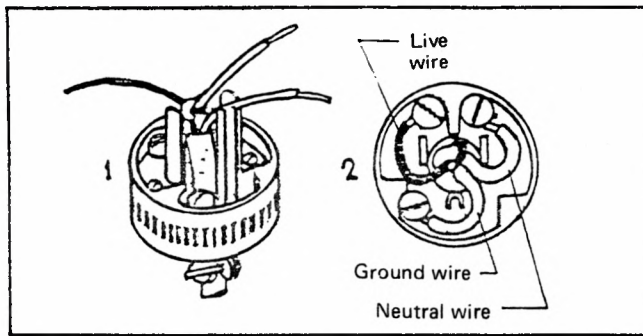

FIG. 5-9 THREE PRONGED PLUG
- h. If the plug is three-pronged (grounded), attach the third wire (never black) to the u-shaped prong. (see Figure 5-9)